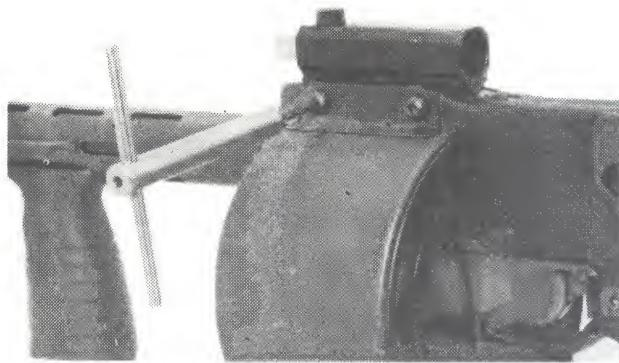

Fig. 11
2. Remove the four fixing screws holding the magazine cover using an Allen key or spanner. (Fig. 11).
6. Replace the four locking screws in top section of magazine cover. (Fig. 11).
* Tighten well with Allen key. (Fig. 11)